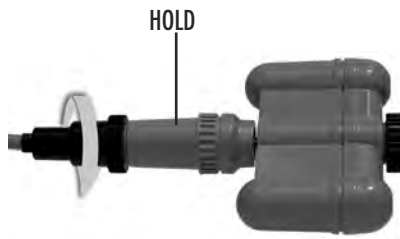

FIGURE S6B
- 5) Grasp the swivel and hand tighten the black collar from the cable (until it is snug) to secure the connection (Figure S6B).